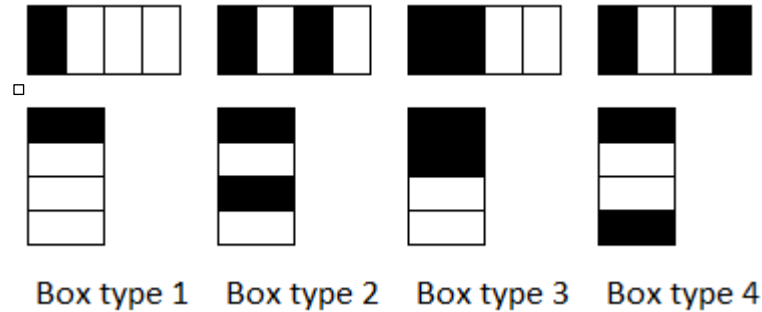
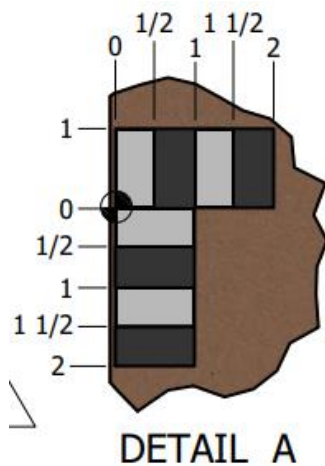

Figure 4. Example of barcodes in horizontal and vertical directions
Figure 5. Dimensions of the barcode
Box verification can be performed using a crude barcode scanning technique. Each box will have both a horizontal and vertical barcode. Your robot needs to scan either a horizontal or a vertical barcode, but not both. Figure 4 shows the four different barcodes that will be used in testing the prototype. See Figures 5 and 6 for the placement of the barcode on the box.
- The horizontal barcode is one inch tall and has 4 – 0.5 inch segments; the vertical barcode is two inches tall and has 4 – 0.5 inch segments as shown in Figure 5.